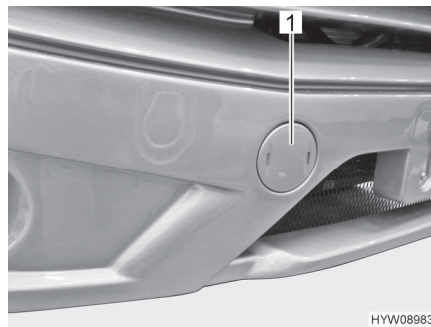

Fig. 41 Cover (mount of the towing eye)
- Lever up the cover (Fig. 41,1) using a screwdriver.